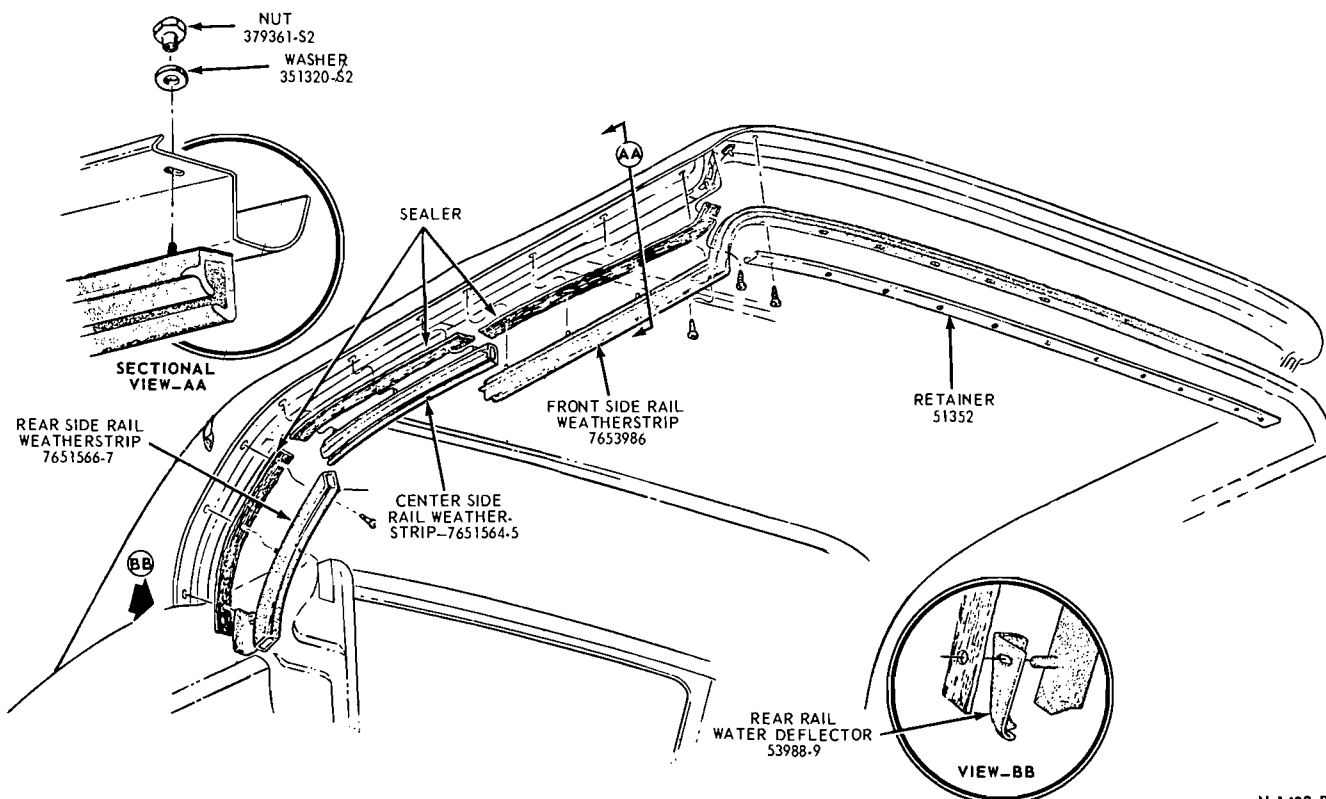

FIG. 16—Side Rail Weatherstrip—Mustang
3. Remove 2 screws attaching the weatherstrip to the header at each corner (Fig. 16).
7. Install 3 nuts and washers attaching the weatherstrip to each side rail. Trim the weatherstrip for a watertight fit (Fig. 16).